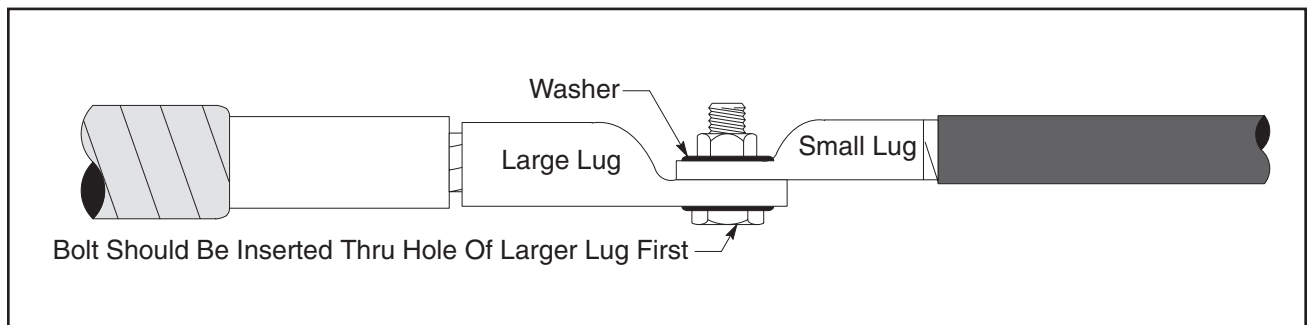

Figure 12
- 8.4 Remove silicone grease from lugs. Bolt lugs together (see *Table 1* for maximum bolt length). See *Figure 12* for proper lug/bolt arrangement.